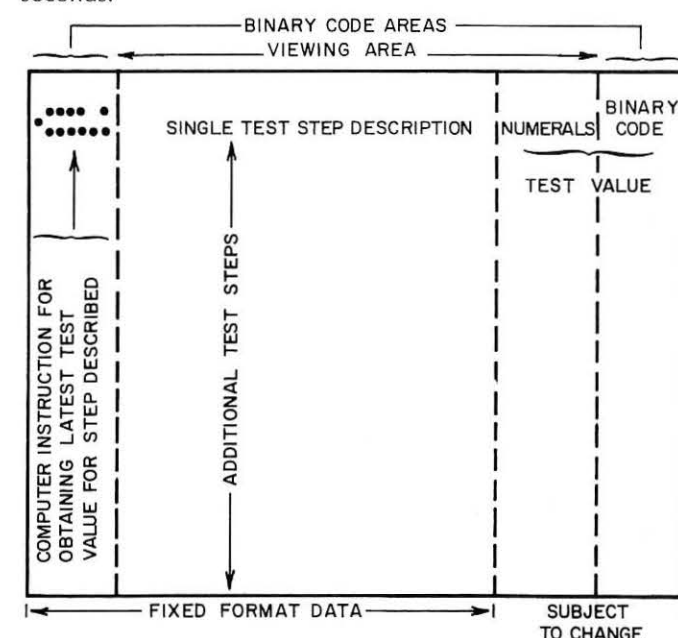

FIGURE 2: Data placement plan for interlock of film frame and computer.
Successful use of slides or filmstrips requires direct interlock of the test step descriptions (for man-reading) with the test computer operations required to obtain and insert the latest test values. Figure 2 and the following premises show a possible way to accomplish this:
Figure 2 and premises (1), (2) and (3) require that binary code bits be recorded on film and later projected from film to optical sensors. Overall tolerance is less than 1% of the height of the projected film frame if maximum advantage is taken of "buffer storage" of computer instructions and test value limits on associated film frames. This is within the capabilities of established tolerances for low shrink film stock, film perforations and film intermittent movements as used in the motion-picture industry. For example:
(1) Assume a 24mm \times 36mm film frame for display formats (this is the same as used in 35mm film slides from candid cameras).
(2) 1% of 24mm is slightly less than 0.010 in.
(3) The sum of published tolerances on film perforations and registration pin intermittent movements is less than 0.001 in. Established jump and weave tolerances on motion-picture projectors is significantly less than the 0.010 in. required by (2) above.